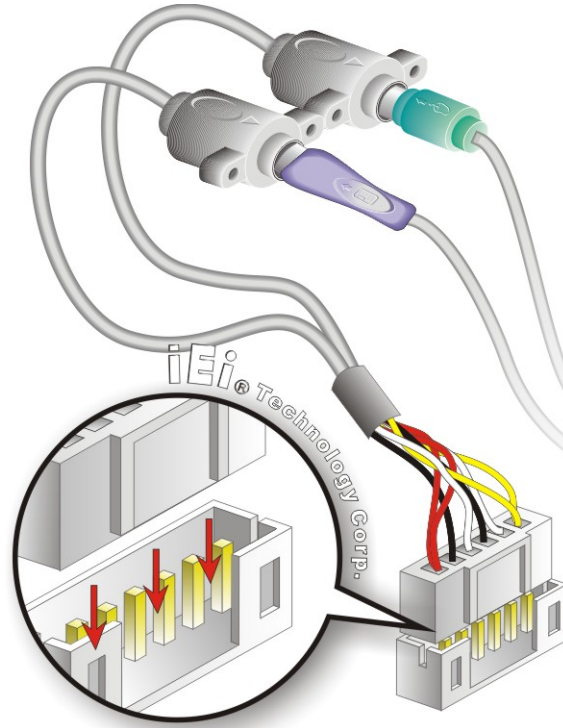

Figure 4-22: Keyboard/mouse Y-cable Connection
Step 2: Align the connectors. Correctly align pin 1 on the cable connector with pin 1 on the WAFER-NM701-1007U keyboard/mouse connector. See **Figure 4-22**.
Step 3: Insert the cable connectors Once the cable connector is properly aligned with the keyboard/mouse connector on the WAFER-NM701-1007U, connect the cable connector to the on-board connector. See **Figure 4-22**.